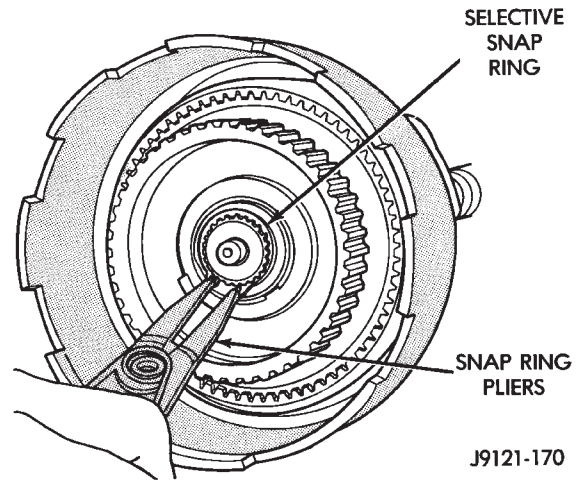

Fig. 99 Installing Planetary Selective Snap Ring
(21) Install planetary selective snap ring with snap ring pliers (Fig. 99). Be sure ring is fully seated.
(22) Turn planetary geartrain assembly over so